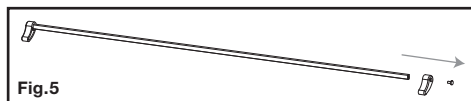

Fig.5
**B.** If the back of your display is curved, has a protrusion, or if the mounting holes are recessed, you will need to use the longer screws (E, G, or I) and spacers (K).
3. Find the tilt adjustment rod and remove one of the tilt adjustment knobs using a screwdriver (see Fig.5). Place the knob and screw in a safe location.